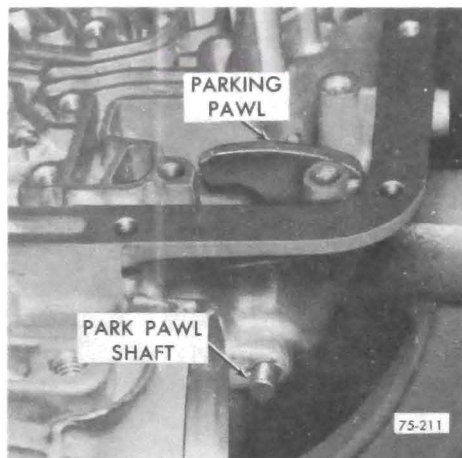

Figure 75-276
2. Install parking pawl shaft into case and through parking pawl. See Figure 75-276.